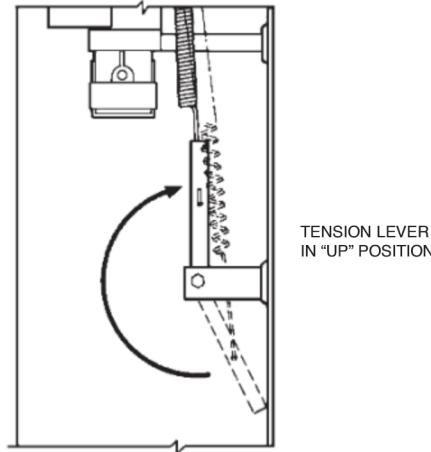

FIGURE 16
19. Raise the tension lever to "UP" position. See Figure 16.